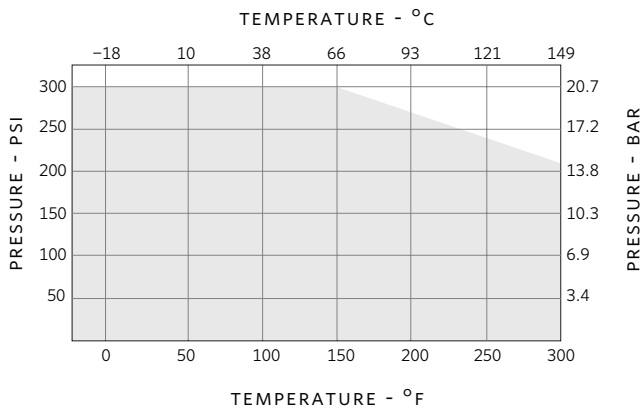

FIG. 13
3.4 On the Flo-trex performance curve (**FIG. 13**) locate the differential pressure obtained in step 3.2 and project line horizontally across to intercept with Valve Performance Curve. Drop a line vertically down to read the flow rate at the bottom of the chart.